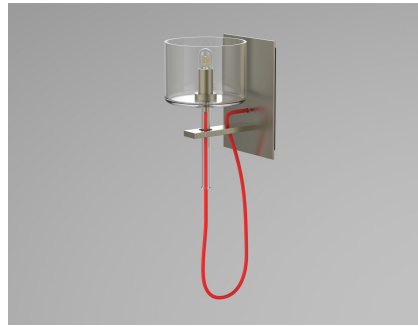

Figure 1
- Using an Allen wrench, loosen the two set screws on bottom of backplate. (Figure 1)
- Install mounting bracket to wall electrical box with the screws provided. (Figure 1)